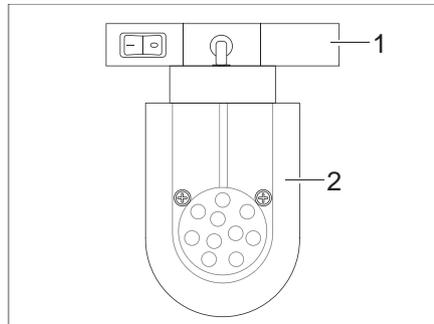

Fig. 64 LED spot light (example)
- Grasp the holder (Fig. 64,1) and turn it 90°.
- Remove the LED spotlight (Fig. 64,2) from the rail system.
- Insert the LED spotlight (Fig. 64,2) into the rail system at the desired position and turn 90°.